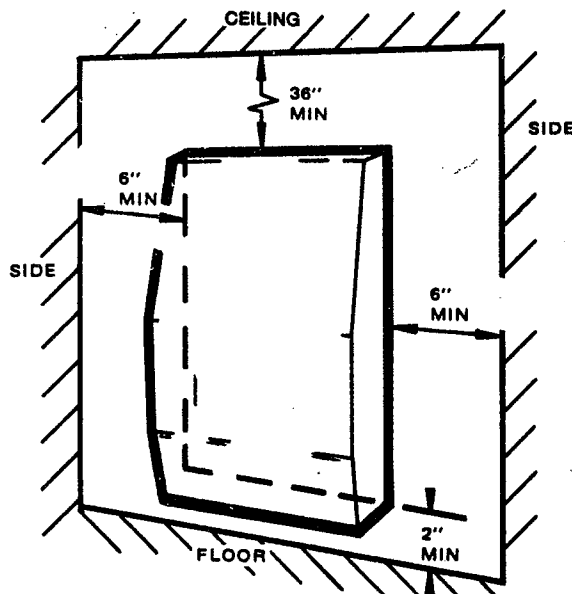

FIG. 1. MINIMUM CLEARANCES—COMBUSTIBLE SURFACES
4. The clearance from the heater to combustible surfaces **MUST NOT** be less than shown in Fig. 1. These are absolute minimum clearances and greater clearances should be allowed wherever possible.